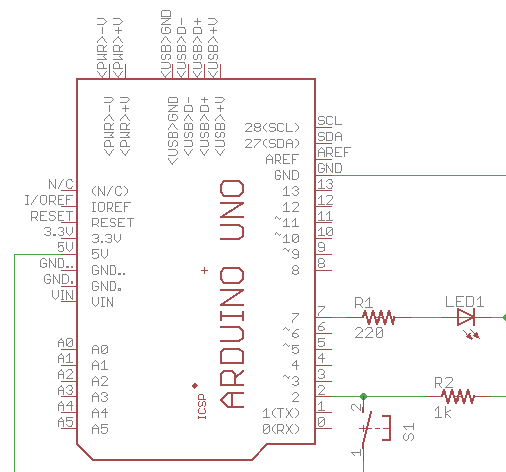

Figure 1.19.
- 3.3. Build the circuit in Figure 1.19. Upload the sketch *File/ Examples/ Basics/ DigitalReadSerial* and start the Serial Monitor. Demonstrate reading the pushbutton state on Serial Monitor by video-recording the screen of your PC. Upload the video to your OWL Dropbox.